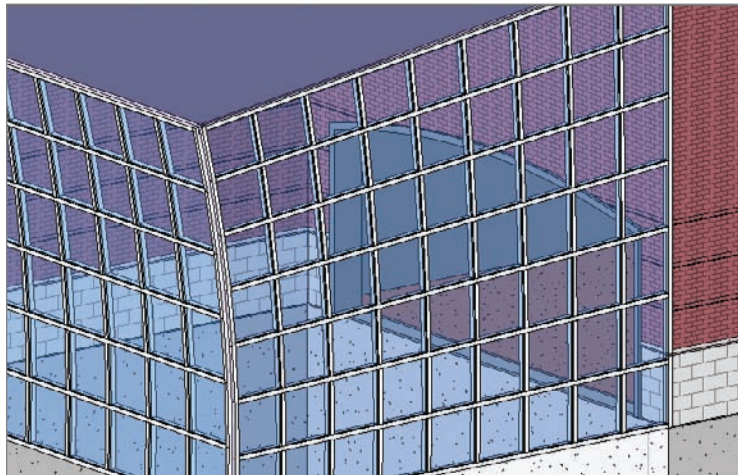

FIGURE 17.33 The finished family
28. Go to a 3D view; your opening should look like Figure 17.33.